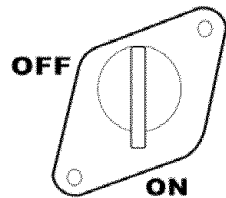

Figure 6- Fuel Valve in the “on” position
3. Turn the fuel valve to the “on” position (see figure 6).